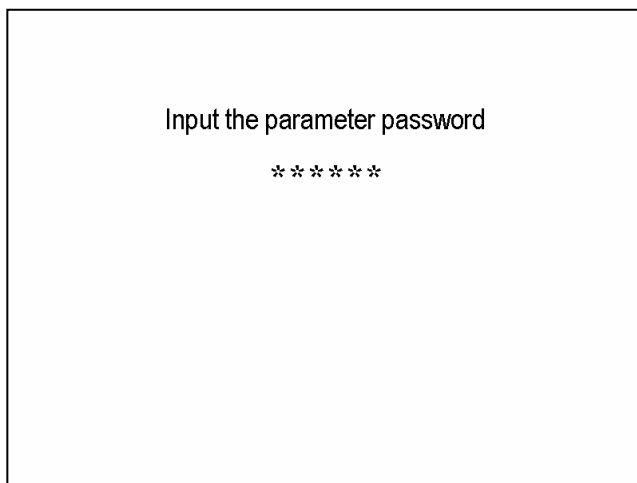

Fig. 2-20
- If the advanced parameters password is not “0” then Fig. 2-20 displays.